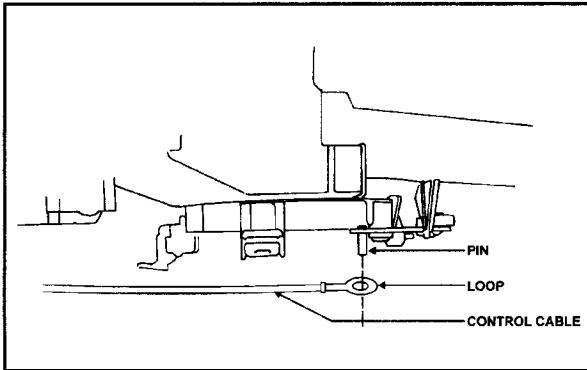

Figure 70: Cable Adjustment at Heater
- 2) On the bottom of the HVAC unit, locate the spring clip and carefully remove the control cable insulation. (Fig. 70)